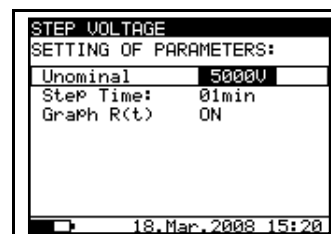

Fig. 25. Set-up menu in Step Voltage Test
- Press the **SELECT** key, (the Set-up menu (**Fig. 25**) will appear on the display).